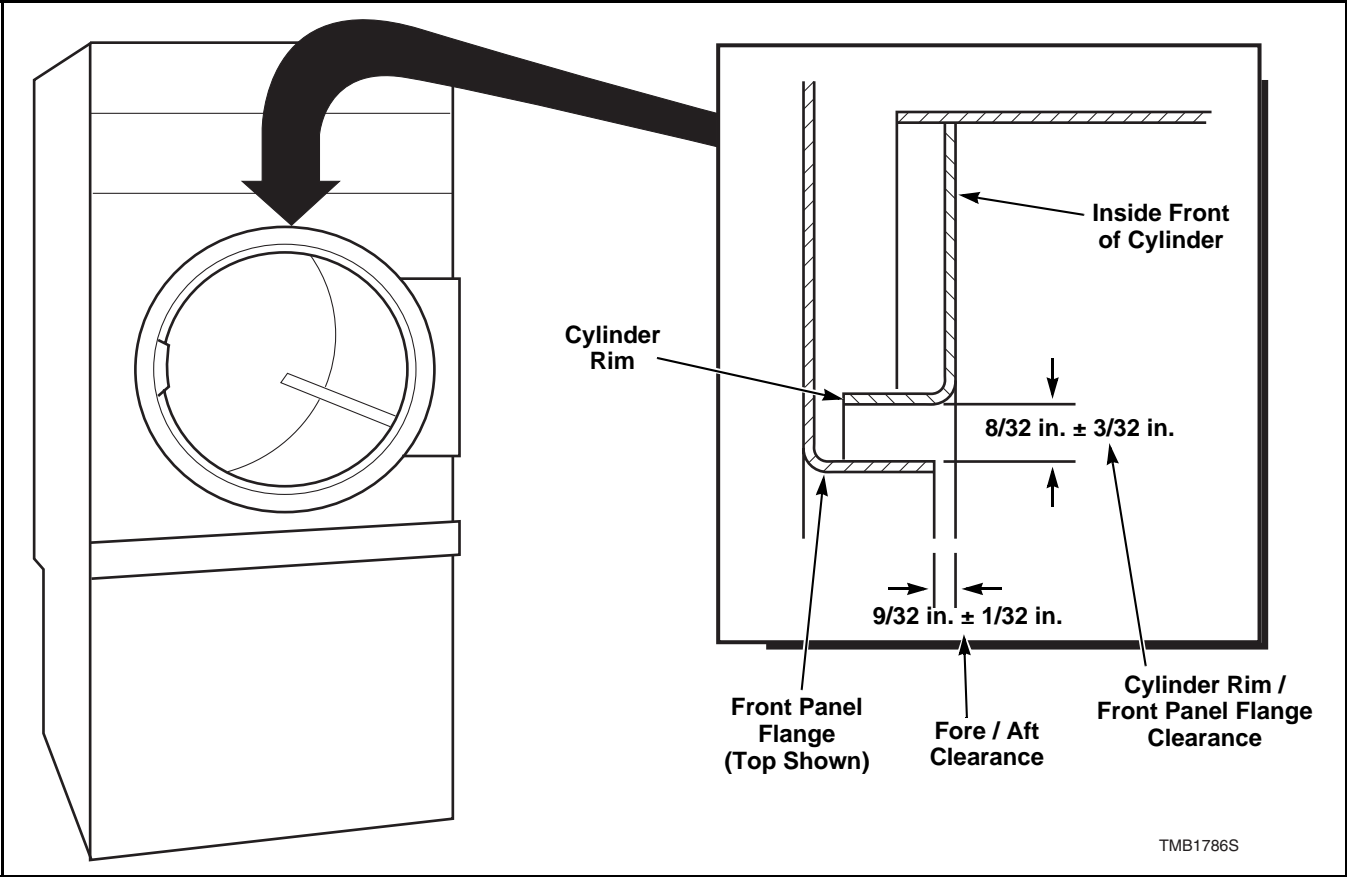

Figure 29
- b. Check the gap between the center of the front panel top flange and the cylinder rim. Proper adjustment is when the gap is  $8/32$  inch  $\pm$   $3/32$  inch. Refer to *Figure 29*. Perform steps “a” through “g” to adjust the cylinder rim/front panel flange clearance.
- c. Check the cylinder fore/aft clearance between the inside front of the cylinder and the edge of the front panel flange. Proper adjustment is when the gap is  $9/32$  inch  $\pm$   $1/32$  inch. Refer to *Figure 29*. Perform steps “h” through “m” to adjust the cylinder fore/aft clearance.